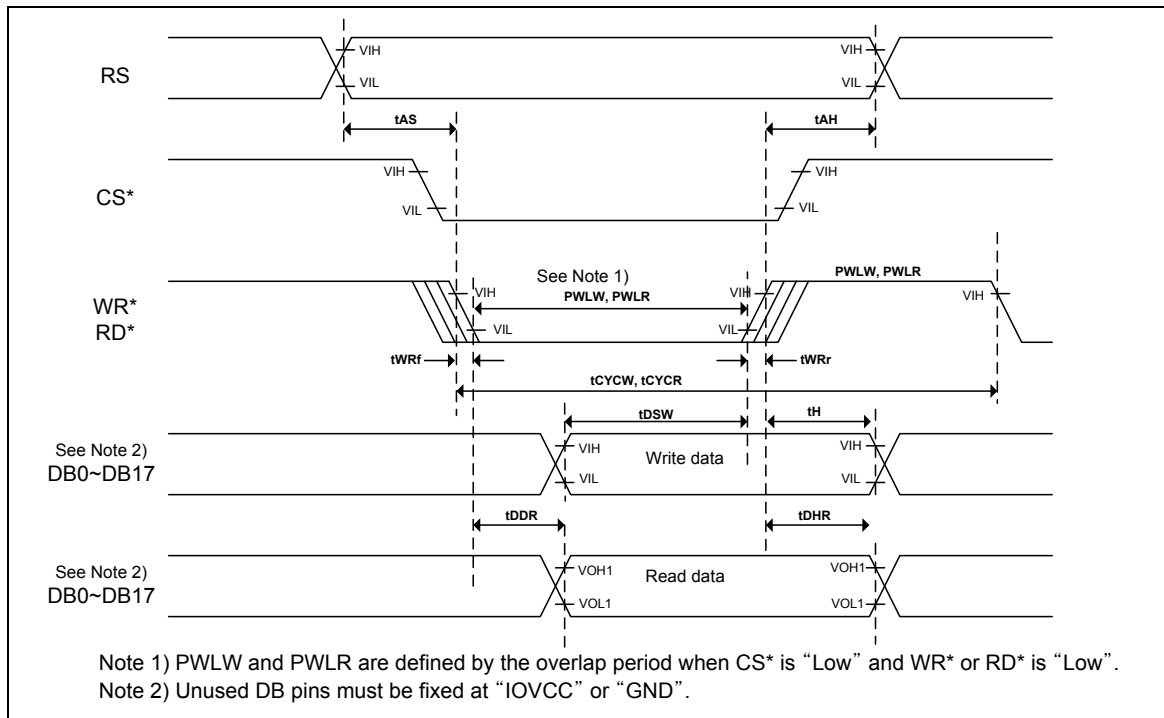

Figure 82 80-system bus interface operation
Table 100 See Figure 82 (Condition:  $IOV_{CC} = 1.65$  to  $3.30V$ ,  $V_{CC} = V_{CI} = 2.50$  to  $3.30V$ )
**Table 101** See Figure 82 (Condition: IOVcc = 1.65 to 3.30V, Vcc = Vci = 2.50 to 3.30V)